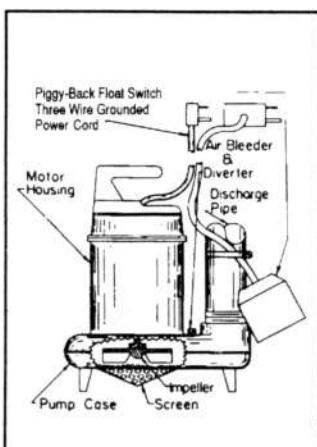

Figure 3
2. The **submersible** type employs a watertight submersible motor coupled directly to the pump casing and is designed to be completely hidden within the sump. See Figs. 3 - 6.
Sump pumps are made to be both automatic (with liquid level control manufactured within the pump and manufactured with the switch as an extra float switch – see Fig. 3.) and non-automatic (manually controlled). In most domestic applications the automatic version is desirable, since it will operate even during the family's absence. Control types are float, diaphragm and electrode. Remember that long discharge lines, piping elbows and fittings tend to add friction head loss to the vertical lift of the pump, and thereby reduce pump output capacity. Always select a pump that will give you a little more pumping capacity and head than your installation requires.